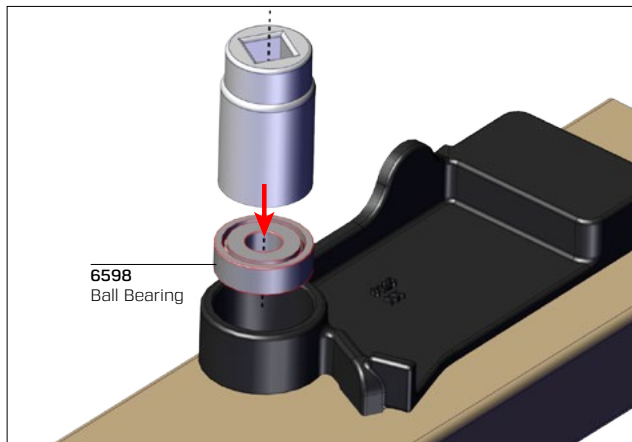

Fig. 10.
- A. With counterweight on flat surface, place new **#6598** ball bearing in bore of hub. Using same socket and hammer that were used to remove old bearing, press new bearing into bore (see Fig. 10). Make sure bearing is centered.